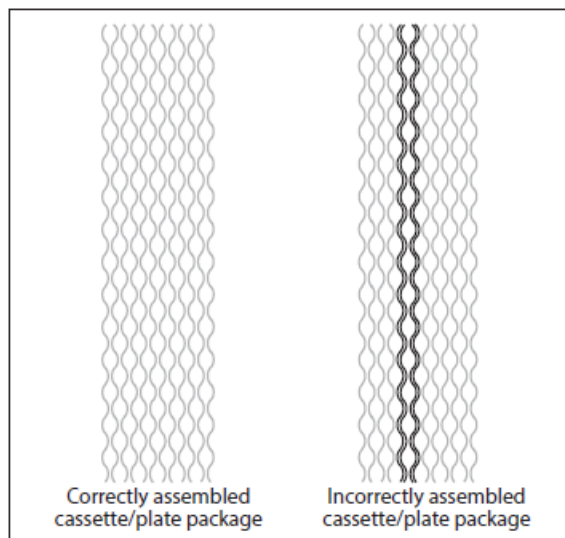

Fig. 13. Correct/Incorrect assembled plate package
- Check the plate/cassette edge pattern for uniformity (see fig. 13)